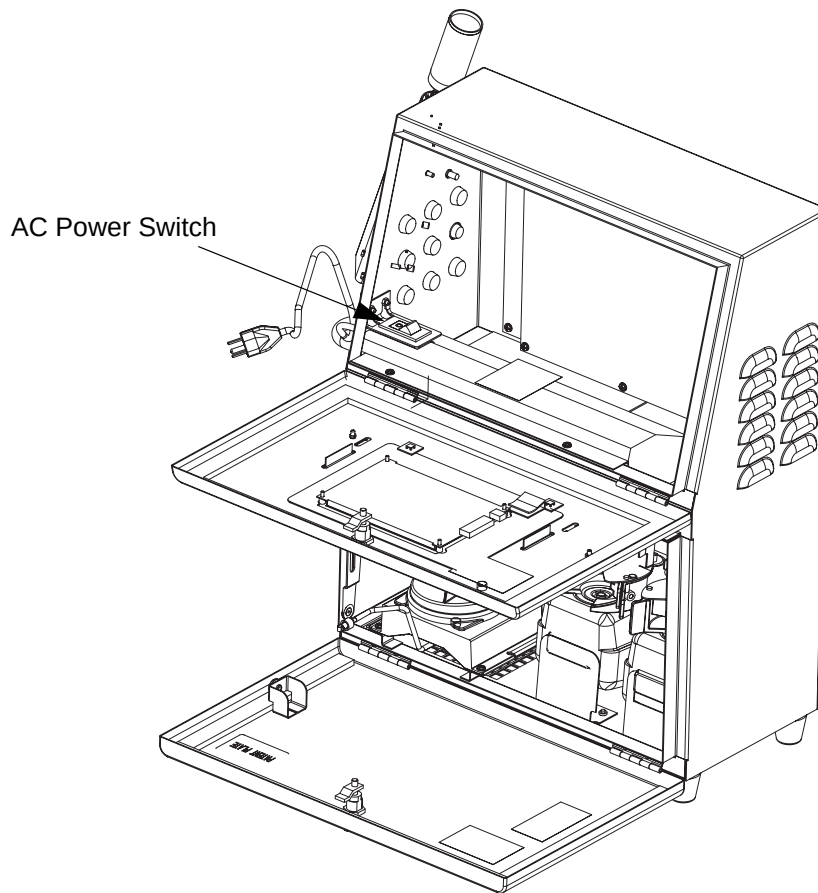

Figure 3-1: AC Power Switch Location
- 5 Insert the power cord in an appropriate electrical outlet and set the power switch to On (I). Refer Figure 3-1 on page 3-3.